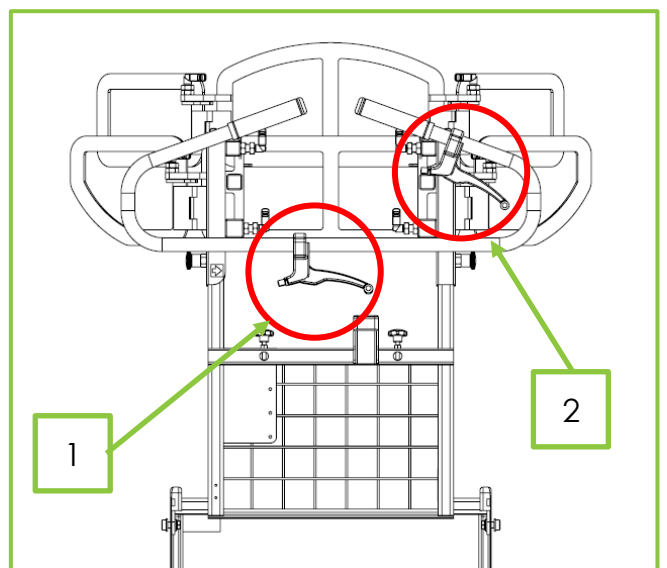
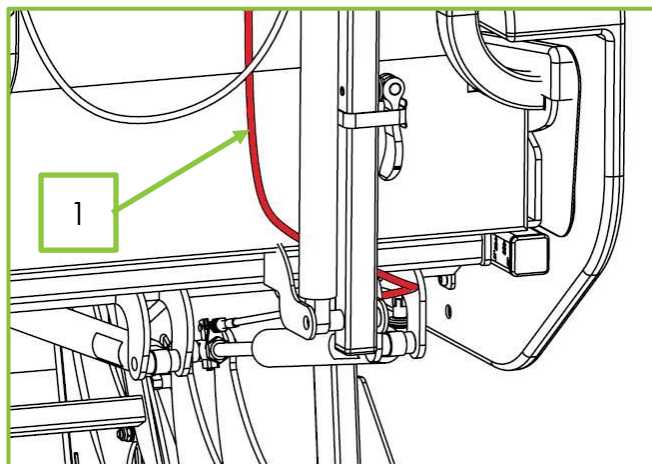

Figure 14
Figure 15
10. Refit the backrest hand lever (Fig 14, Item 1) and Tilt-in-Space hand lever (Fig 14, Item 2) in the positions shown in Figure 14. Ensure the Tilt-in-Space operating cable (Fig 15, Item 1) is routed between the backrest and backrest actuator assembly.